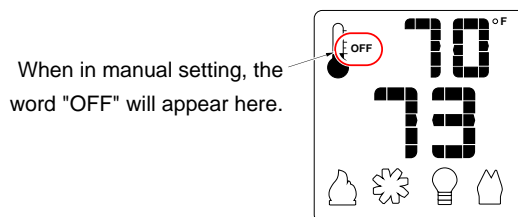

Figure 7
- **MANUAL ON/OFF** – The burner will turn on and off using the remote (see Figure 7). Press the On/Off button to control the burner. When off, the display will only show the current temperature.